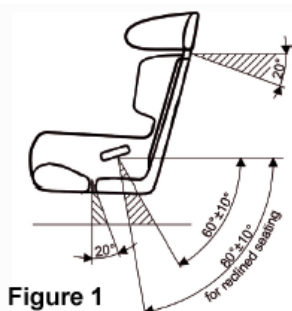

Figure 1
- A. All harness belts must be installed based on the instructions provided by the harness belt manufacturer. Figure 1 details the recommended installation angles of each harness belt anchor point based on the latest testing completed by the FIA. The following types of harness belts are approved. Both latch-link and CAM lock locking systems are allowed.
- A. The lap belts shall be mounted rearward of the pelvis, between two lines drawn at 60 degrees and 80 degrees, below the horizontal (see Figure 1).
- C. The shoulder harness must be mounted at an angle of 0 degrees to 20 degrees from the horizontal plane measured from the top of the shoulder or the top of the HANS (see Figure 1). In no case shall the shoulder harness be mounted above the horizontal at shoulder height.